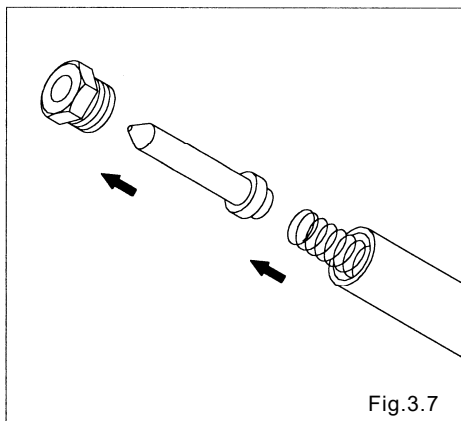

Fig.3.7
- Remove the nut, and remove the valve from the center rod. [Fig.3.7]